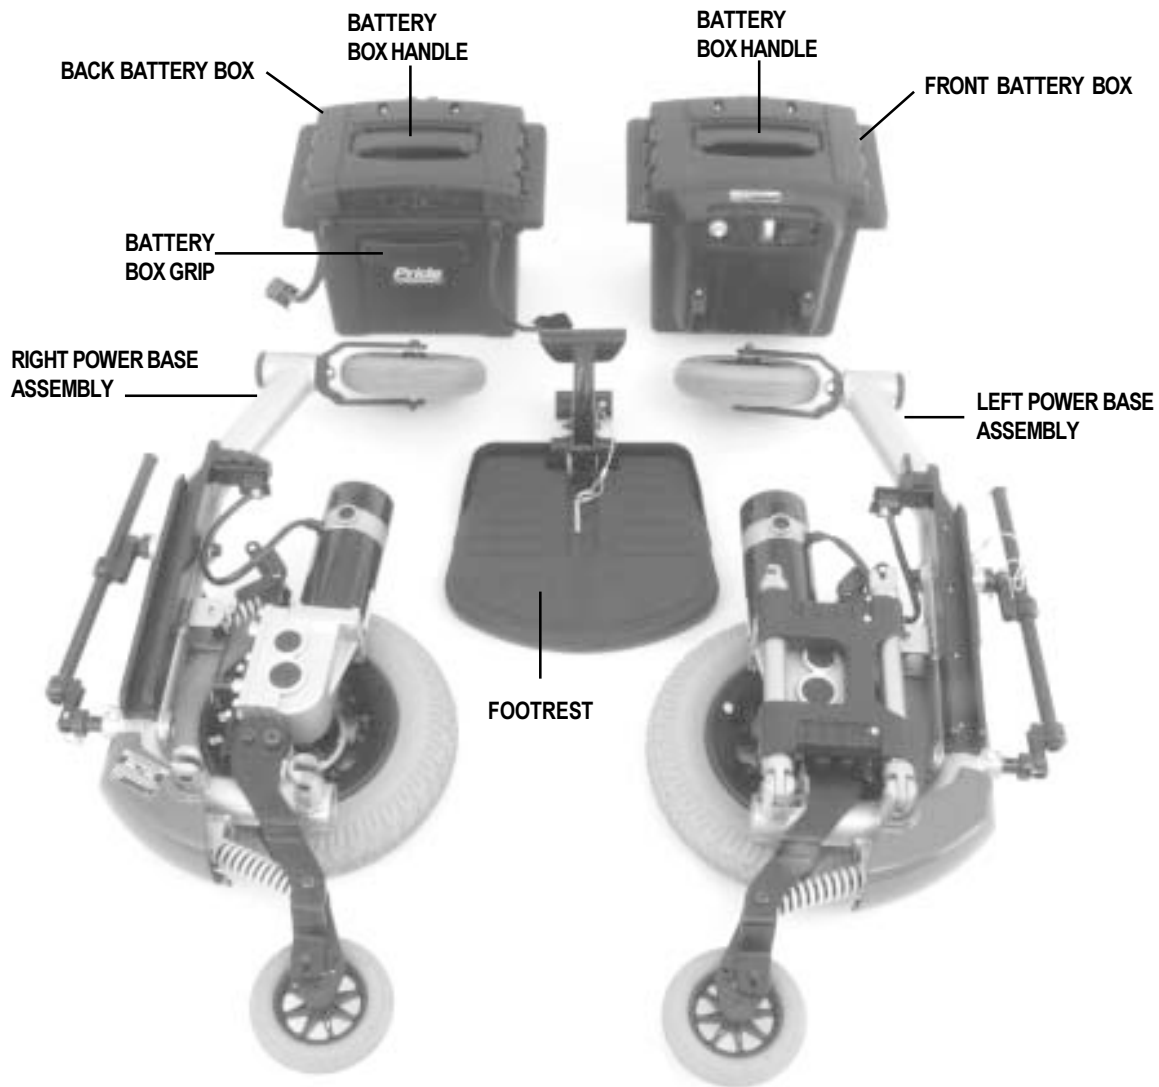

Figure 8. Jazzy 1133 — Power Base Components
You can disassemble your Jazzy 1133 into six pieces (seat not shown) for easy transport. See figure 8.
10. With one hand, hold the front battery box by the handle. See figure 8.